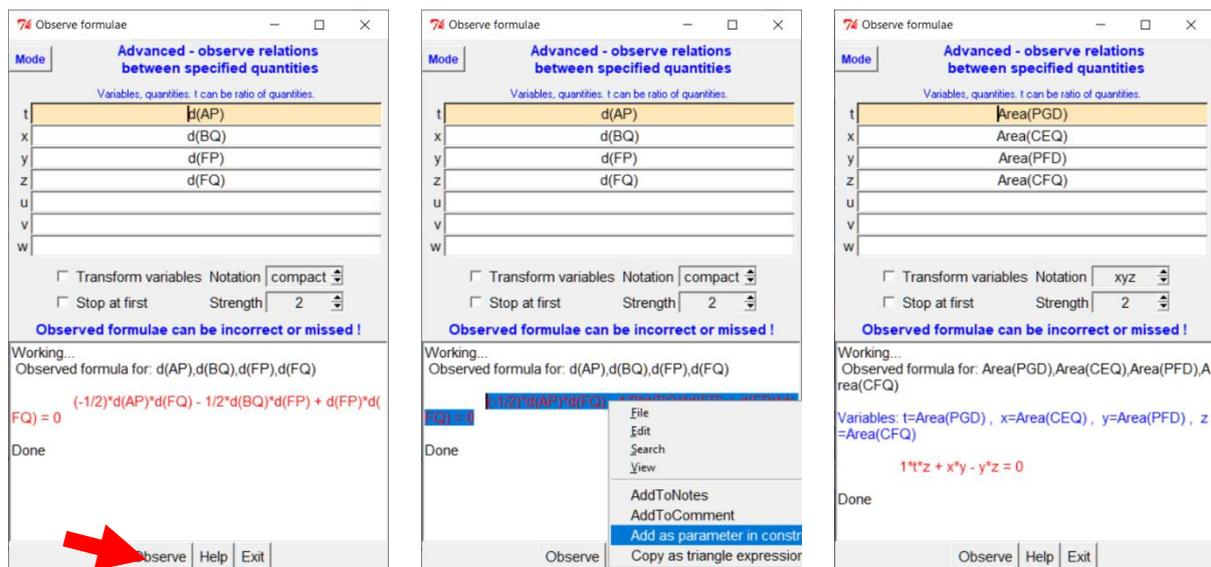

Figure 36
The first entry of the form that appears (Figure 36) is lightly coloured to emphasise its special role:
2. Apply the command *Command/Observe formulae/Advanced*. A form appears. In the entries t, x, ... write the quantities to be considered. In our case we write $d(AP)$ for the length of the segment AP and similarly for the other three segments. Then click on the **Observe** button (Figure 36, left).